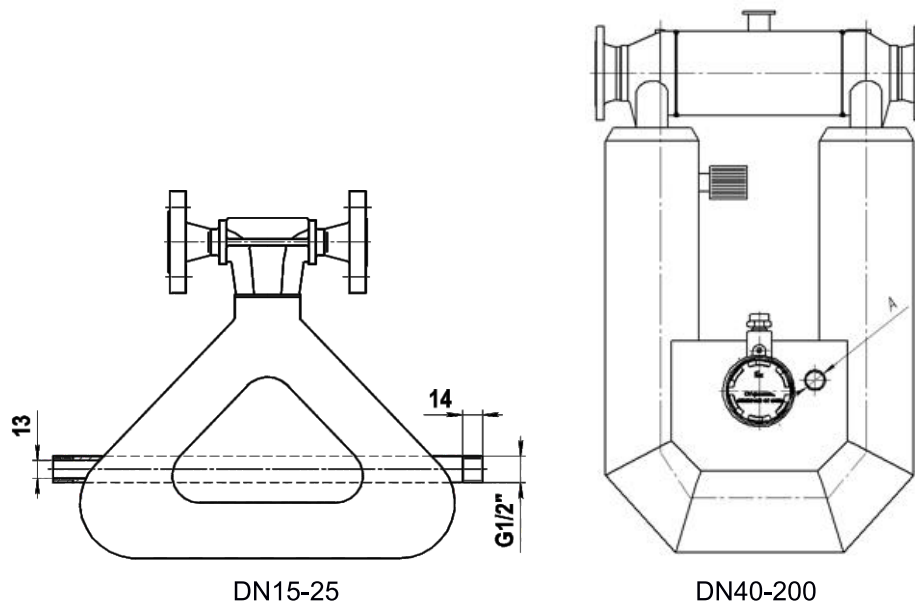

Figure 2.9 – External cooling supply
2.3.6 Cooling For high temperature modification of the flowmeter (with medium temperature above +200 °C) possibility of external cooling is provided (see Figure 2.9).